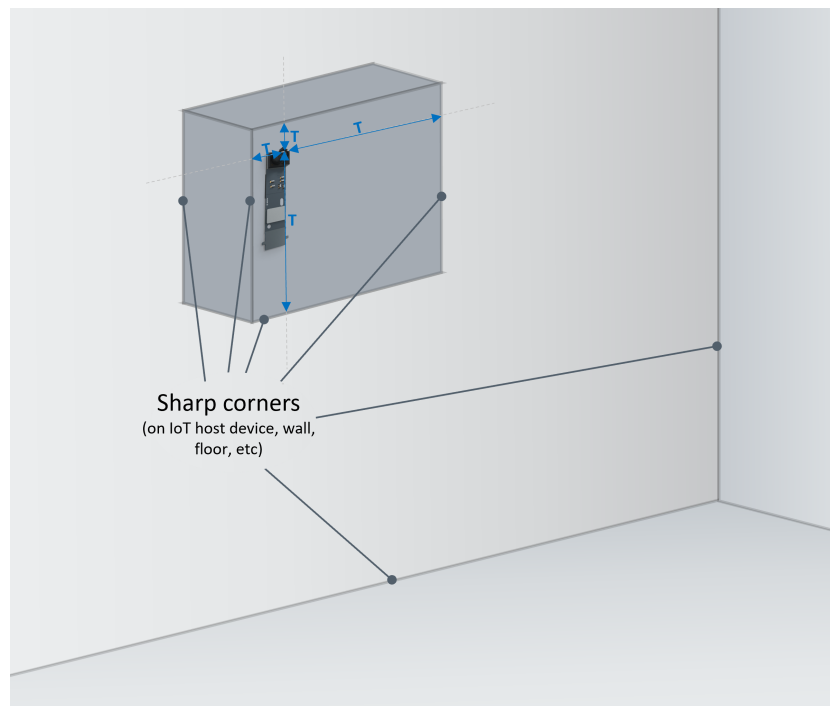

Figure 13: Placement of BMV080 away from sharp edges
- Sensor location in the host system: place the BMV080 minimum 17 mm away from sharp edges to avoid turbulent air flows that could affect the sensor performance, see Figure 13.